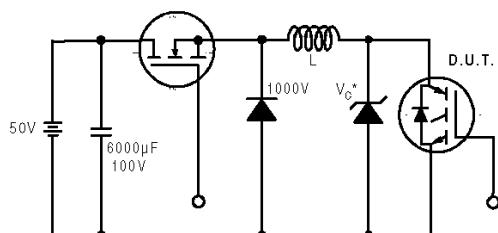

Figure 19. Clamped Inductive Load Test Circuit
- ② $V_{CC}=80\% (V_{CES})$, $V_{GE}=20V$, $L=10\mu H$, $R_G=10\Omega$ (figure 19)
- ③ Pulse width $\leq 80\mu s$; duty factor $\leq 0.1\%$.
- ④ Pulse width $5.0\mu s$, single shot.